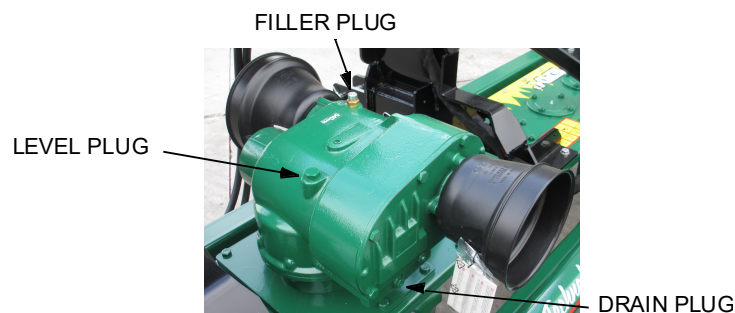

Figure 3
- Check gearbox oil level by unscrewing the filler plug, located on top of the box, and controlling that the metallic rod, with which the plug is provided, is wet of oil for a height no less than 15 mm (see Fig. 3 and 4). If height is inferior to 15 mm, provide immediately to refill with new oil.